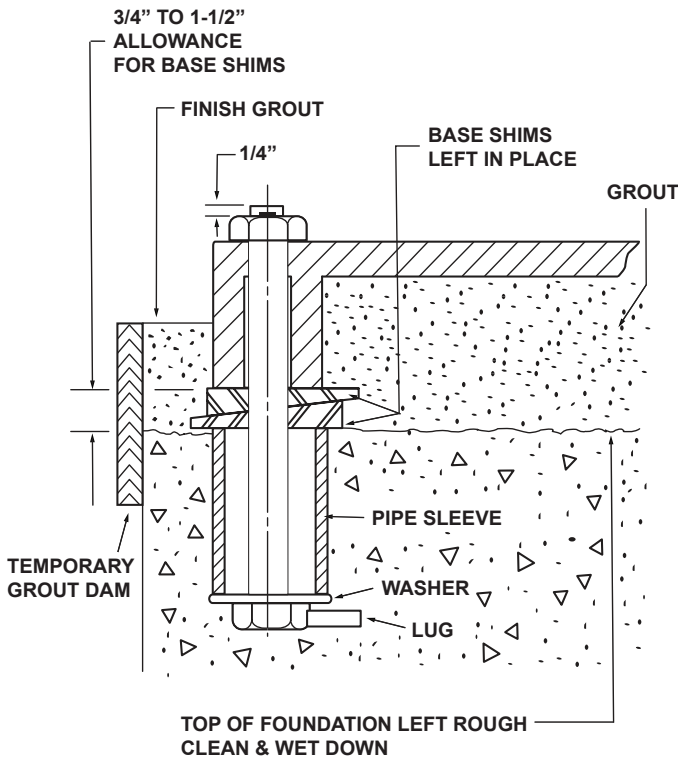

FIGURE 3 - BASEPLATE FOUNDATION
1. The diesel engine foundation should be located as close to the source of the fluid to be pumped as practical. There should be adequate space for workers to install, operate and maintain the diesel engine including room to remove the unit for maintenance at a future date. The foundation should be sufficient enough to absorb any vibration and should provide a rigid support for the pump and diesel engine. The foundation's mass should be three (3) times that of the complete installed assembly (at a minimum). Recommended alignment of the baseplate is accomplished by adjusting the mounting hardware. After alignment, the baseplate is supported by metallic shims or wedges. These metallic shims or wedges are used to support the baseplate during the process of concrete pouring (grouting) of the anchor bolts. In order to avoid torsional twisting of the baseplate during the installation process, metallic shims or wedges should be placed as close to the anchor bolt locations as possible. The metallic shims or wedges are fixed permanently in location by pouring grout at a later step.
2. Special attention must be paid to the baseplate during the foundation installation making sure stress is not induced on the baseplate. The diesel engine end of the baseplate shall not be higher than the pump at any condition and the deviation shall not exceed ± 0.004 IN/FT [0.1 MM/M] between the baseplate and horizontal level. Recommended mass of the concrete foundation should be three (3) times that of the complete installed assembly (at a minimum). Note that foundation bolts are imbedded in the concrete inside a sleeve to allow some movement of the bolt making installation easier.
3. Level the diesel engine/pump baseplate assembly. If the baseplate has machined coplanar mounting surfaces, these machined surfaces are to be referenced when leveling the baseplate. This may require that the pump and diesel engine be removed from the baseplate in order to reference the machined faces. If the baseplate is without machined coplanar mounting surfaces, the pump and diesel engine are to be left on the baseplate. The proper surfaces to reference when leveling the pump baseplate assembly are the pump suction and discharge flanges. **DO NOT** stress the baseplate. **DO NOT** bolt the suction or discharge flanges of the pump to the system piping until the baseplate foundation is completely installed. Use shims and wedges to level the baseplate to the foundation. See FIGURE 3. Check for level in both the longitudinal and lateral directions. Shims or wedges should be placed at all baseplate anchor bolt locations and in the middle of the baseplate if the base is more than five feet [1.5 meters] long. Do not rely on the bottom of the baseplate to be flat. Standard base plate bottoms are not machined and it is not likely that the field foundation surface is flat either.